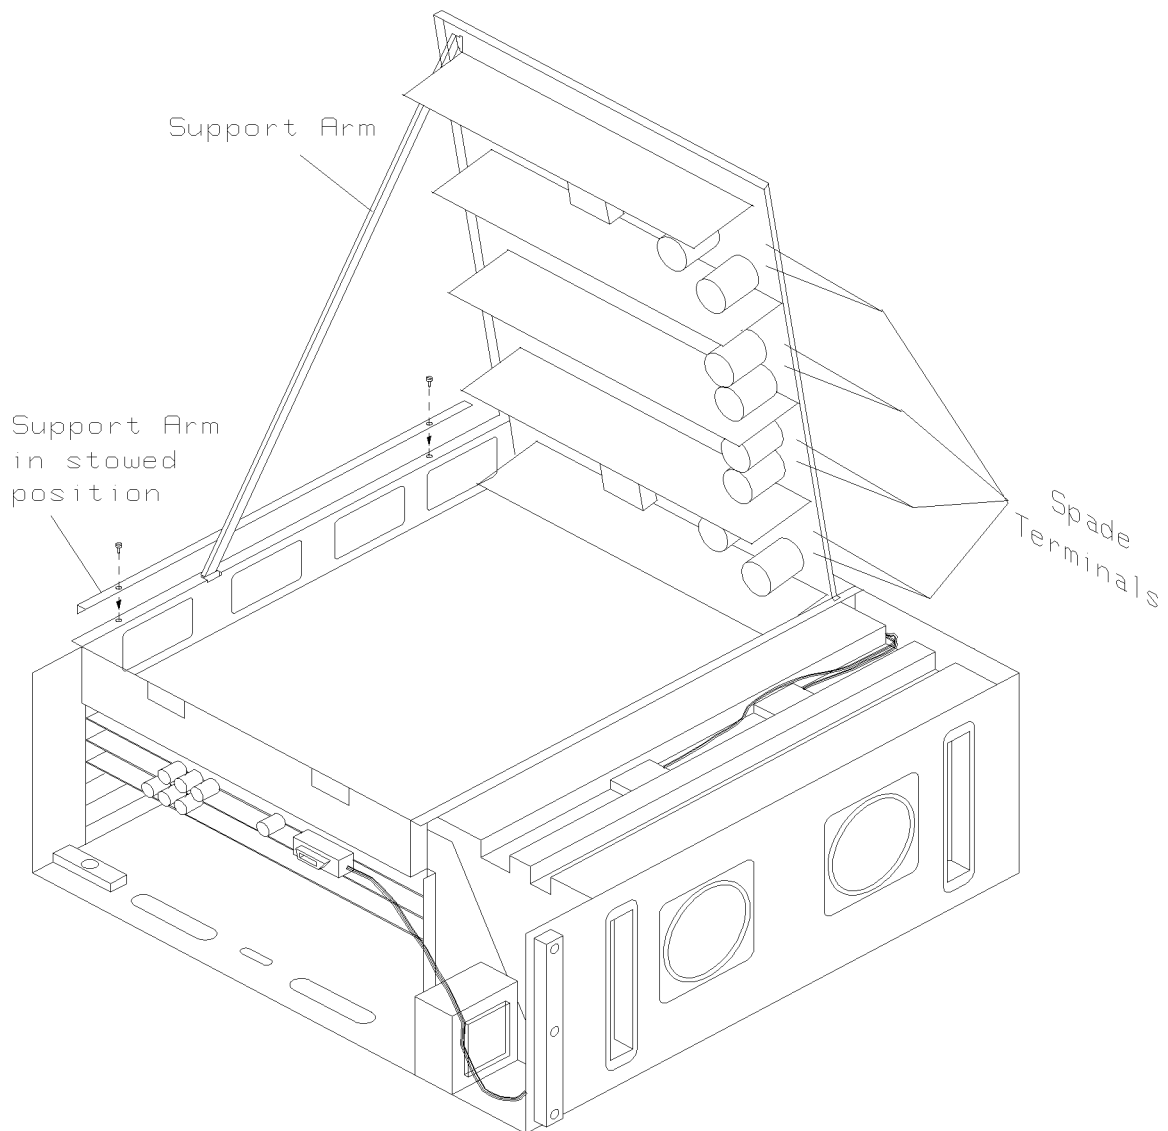

Figure 10-2. Replacing Miniframe Power Supplies
4. Lift up the power supply assembly (hinged at the rear) and fix it in position with the support arm (see Figure 10-2).